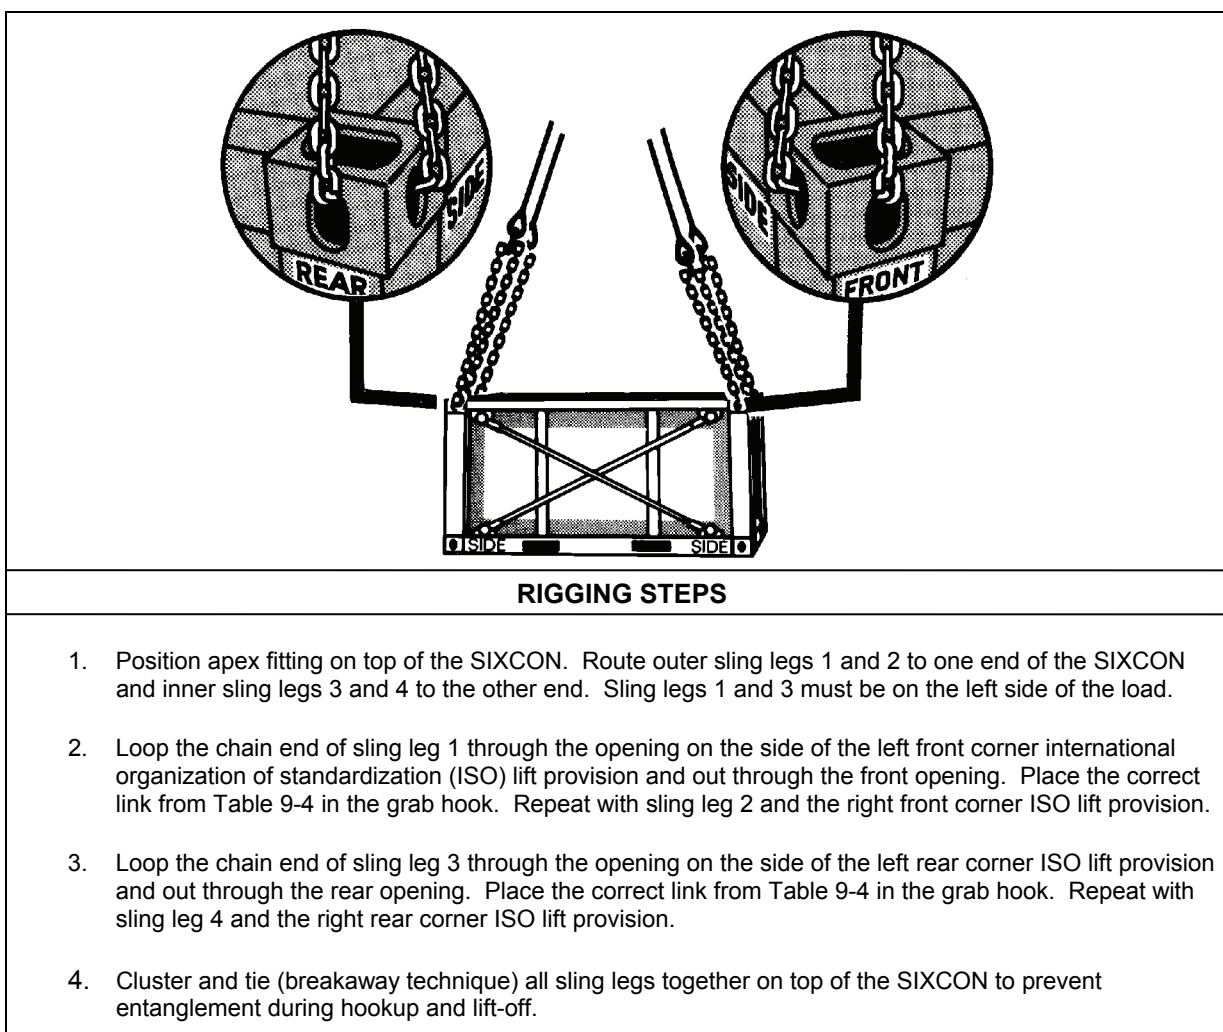

Figure 9-4. Storage Module, Fuel/Water, Six Compartment Container, Individual
- **Rigging.** Rig the load according to the steps in Figure 9-4.